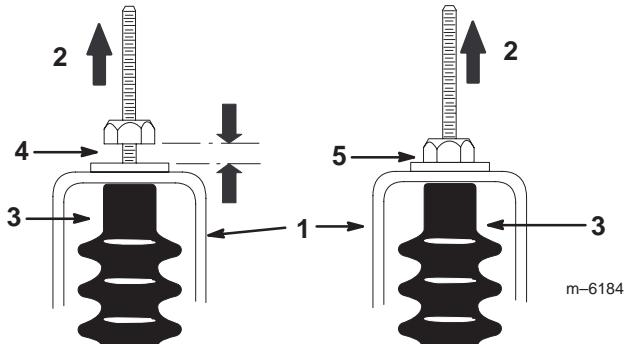

Figure 22
5. Pull up on each shift cable and ensure that there is no gap between the nut/washer and the neutral bracket (Fig. 22). If there is a gap, tighten the nut.